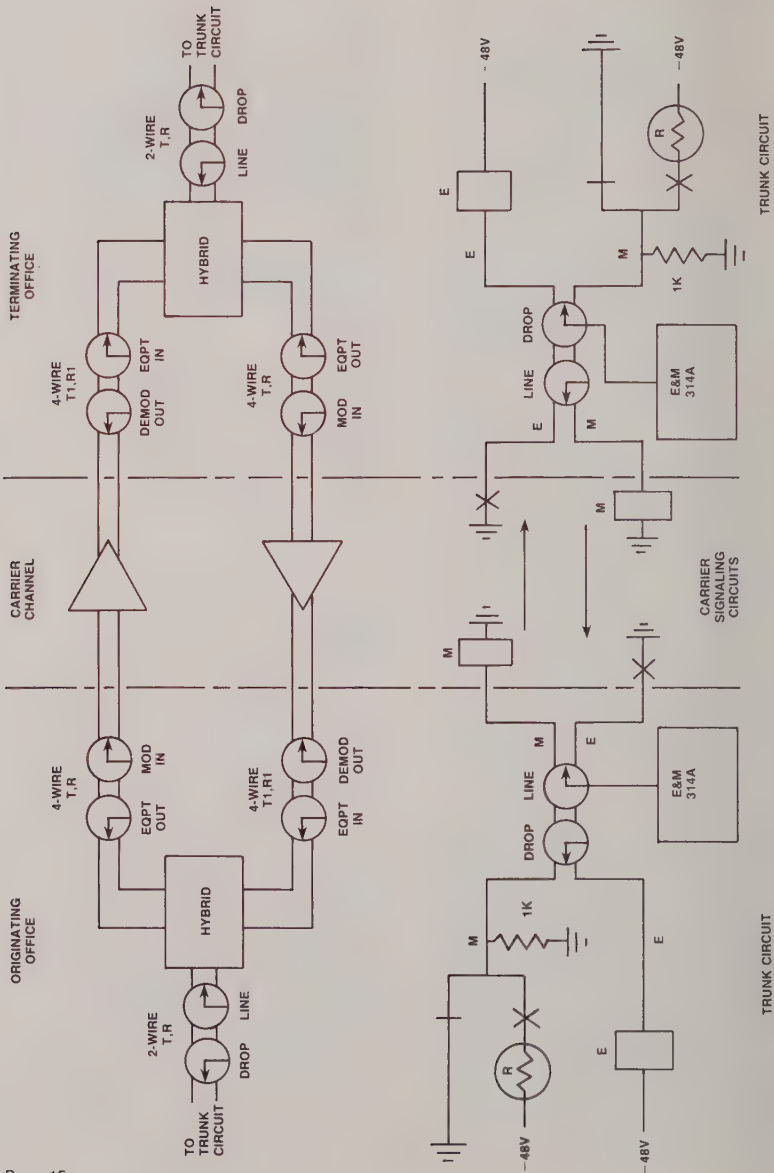

Figure 3. Originating and Terminating Office E&M Jack Connections
3.27 Figure 3 shows the 314A E&M jack connections for Originating and Terminating type offices. The 314A T,R and T1,R1 voice frequen-
5	Connect the 314A to the E&M Originating trunk. Verify that -48V is connected to the -48V jack. The TR and E&M jacks should be connected to the trunk with 310 cords for 2-wire circuits. If the trunk is a 4-wire circuit, connect T1,R1 also (See Figures 3, 4 and 5)